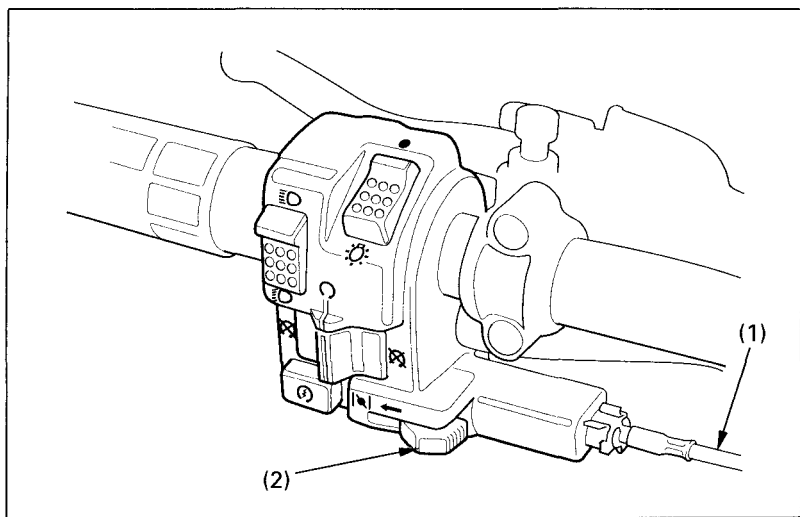

Fig. 4-9
Check the condition of the choke cable (Fig. 4-9) and the operation of the choke lever (2). If the cable is damaged or kinked, have it replaced by your Honda dealer.